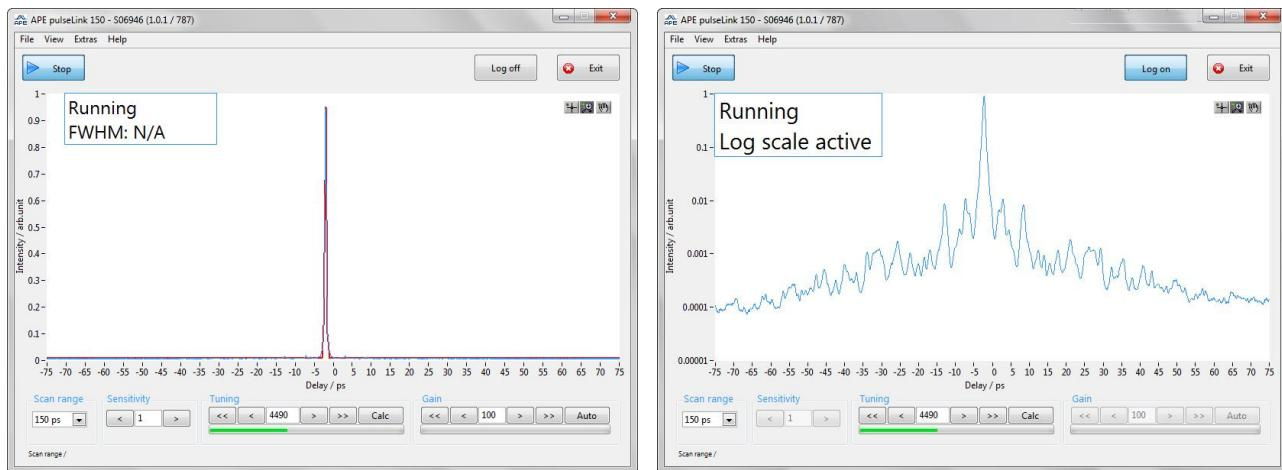

Figure 5.13.: Left: Normal ACF mode. Right: High contrast mode. Note that the time / delay axis is the same in both pictures.
23. When you now operate the beam shutters the signal should behave as shown in Figure 5.13.
If the signal was previously optimized already no further steps are necessary at this point. The control software will display the high contrast ACF with a logarithmic intensity axis. Figure 5.13 shows a example of a ACF in normal and in high contrast mode. Note that the two pictures display the same laser with the same pulse parameters in both pictures.
It is important to keep in mind that although the lasers pulse parameters in the two pictures in Figure 5.13 are the same, the laser power is higher for the high contrast measurement. The reason is that the normal PD detector and the high contrast logarithmic detector have different properties. While the normal PD detector is linear the signal processing in the high contrast detector is logarithmic. In other words, while a relatively low laser power is necessary to saturate the normal detector (the signal peak is equal to 1 in the intensitiy scale of the control software) the high contrast detector needs multiple times more laser power to be saturated. Thus, the high contrast function of the logarithmic detector is that it is able to encompass relatively small signals (wings, pre or post pulses etc.) and the high peak intensity of laser pulses at the same time.